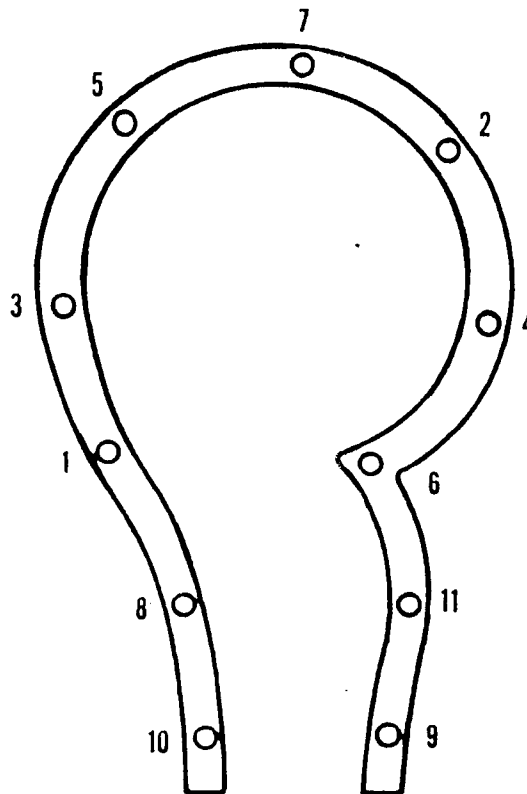

Figure 6-4. Pump Cover Torque Pattern
9. Position the pump cover gasket in place on the pump housing. **NOTE: Do not use silicone sealant on the pump cover gasket.** Align the holes in the gasket with the holes in the pump housing. Place the pump cover in position and secure it in place with its mounting bolts. Refer to figure 6-4 and torque the bolts to 80 in-lbs (92 kg-cm) each using the pattern shown.